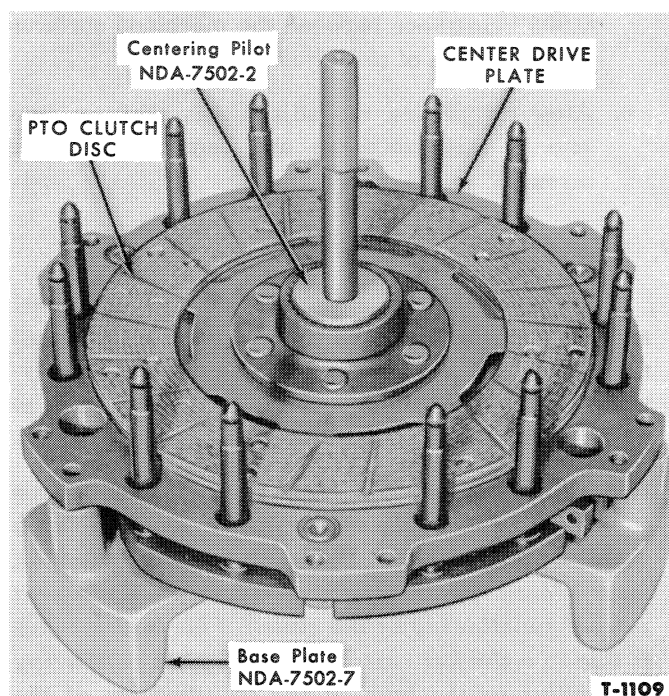

Figure 10—Center Drive Plate and P.T.O. Disc Installed
3. Install the P.T.O. clutch disc with the hub facing up, as shown in Figure 10.